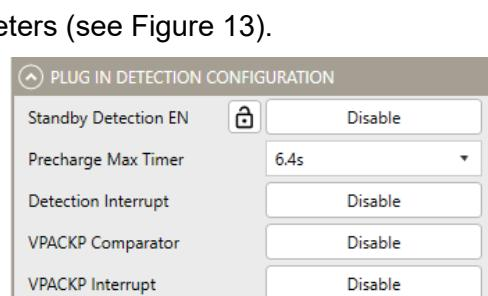

Figure 13: Plug-In Configuration
9. Configure the plug-in parameters (see Figure 13).